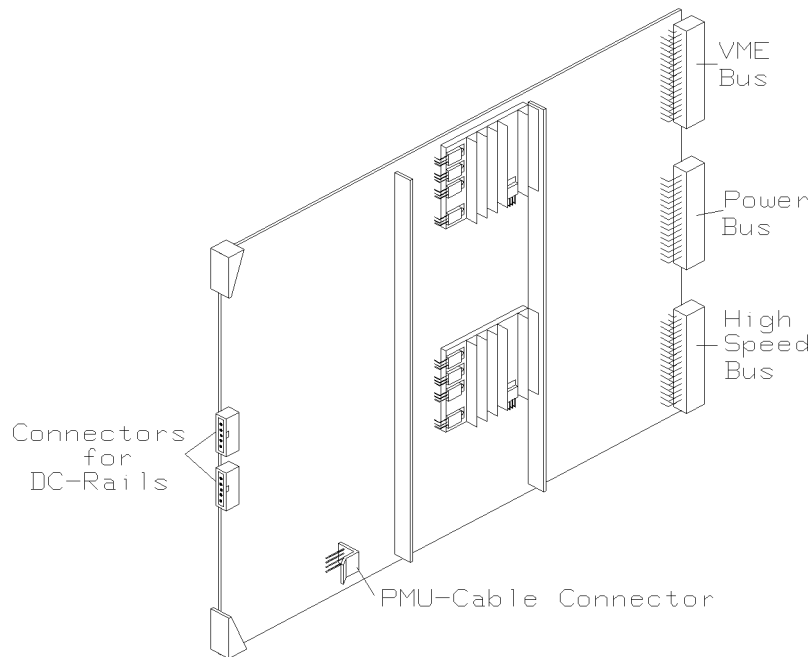

Figure 10-10. PMU Board
3. A PMU cable from the PCM must be connected to each PMU Board. This cable supplies the PMU with a 28-34 Vac supply. This cable is installed in the factory and routed to the card-cage. The connector on the PMU Board for the PMU cable is labeled *PMU-Cable Connector* in Figure 10-10.